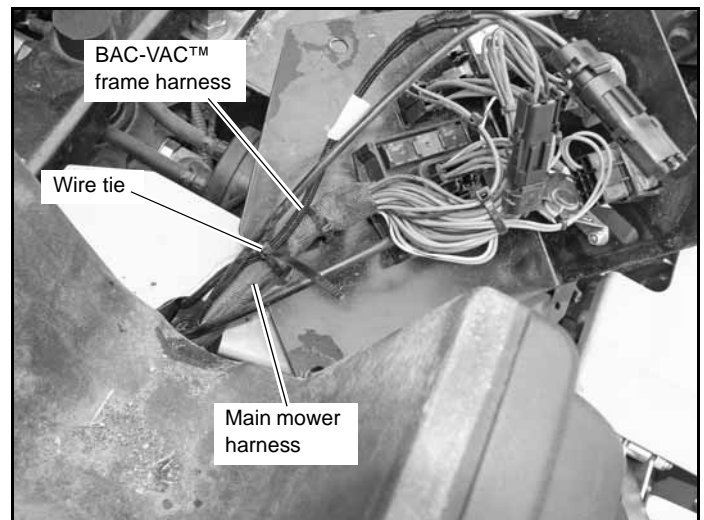

Figure 3-12
6. Secure the BAC-VAC™ frame harness to the main mower harness with a wire tie. Figure 3-12